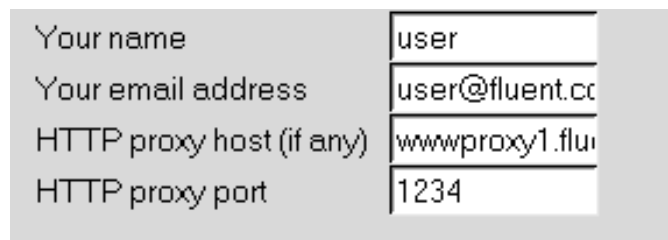

Figure 6.3.14: The Error reporting Section of the Preferences Panel
-  **Error reporting** allows you to pre-fill the Error report panel with the following information necessary to email a report: Your name, Your email address, HTTP proxy host (if any), and HTTP proxy port, as shown in Figure 6.3.14.